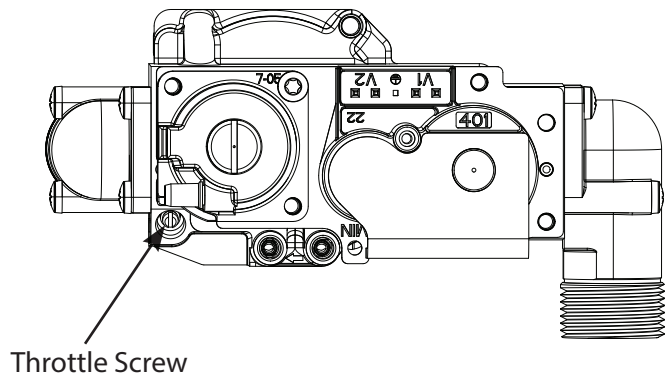

Figure 9 Throttle Screw Location
- If the combustion levels during high fire are outside the recommended combustion settings (refer to Table 2), use a flat-blade screwdriver to adjust the throttle screw (refer to Figure 9). Use the adjustments shown below to increase or decrease oxygen (O2) and carbon dioxide (CO2) levels within the unit.